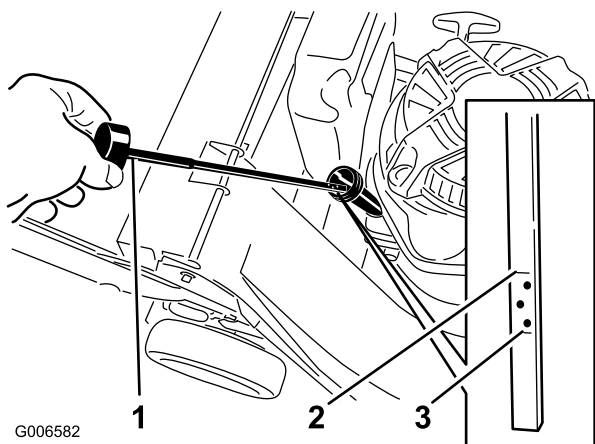

Figure 9
Before each use, ensure that the oil level is between the Add and Full marks on the dipstick (Figure 9).
2. Clean around the dipstick (Figure 9).
6. Remove the dipstick and read the oil level on the dipstick (Figure 9).